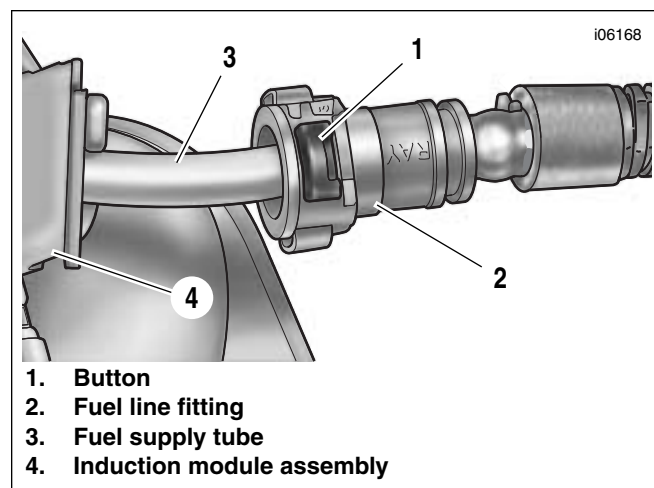

Figure 3. Fuel Supply Line Fitting - Induction Module
9. See Figure 3. Depress button (1) on fuel line fitting (2) and pull to release from fuel supply tube (3).
1. See Figure 3. Slide **new** fuel line onto fuel supply tube (3), until fuel line fitting (2) “clicks” in place. Gently tug on fuel line to verify that it is locked in place.